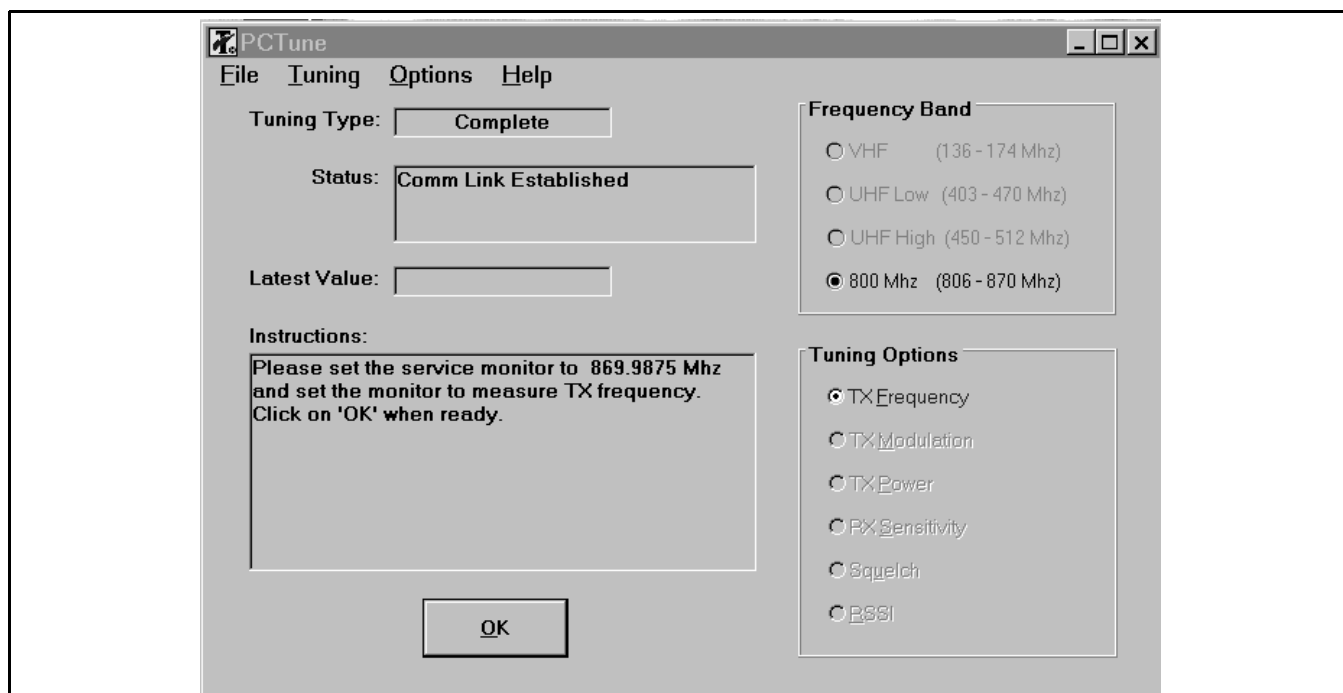

Figure 5-2 Tuning Software Screen (800 MHz Models)
3. Start the program as described in the preceding section. Select Options > Set Com Port and make sure that the correct serial port is selected (see screen in Figure 5-2).